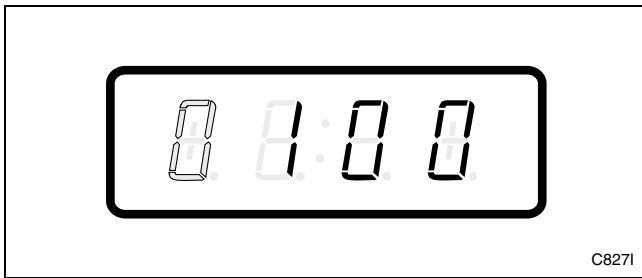

Figure 15
6. Press the START (enter) keypad to enter the fifth digit and display remaining four digits. The active digit will flash one second on and one second off. Refer to *Figure 15*.